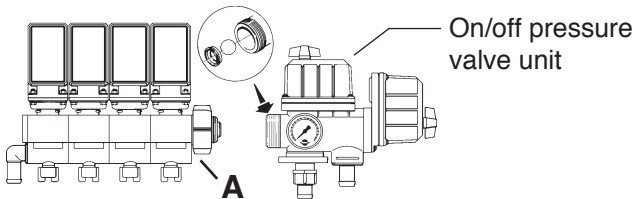

Fig. 36
2. Unscrew the union nut **(A)** (Fig. 36) and pull the on/off pressure valve away from the distribution valves.